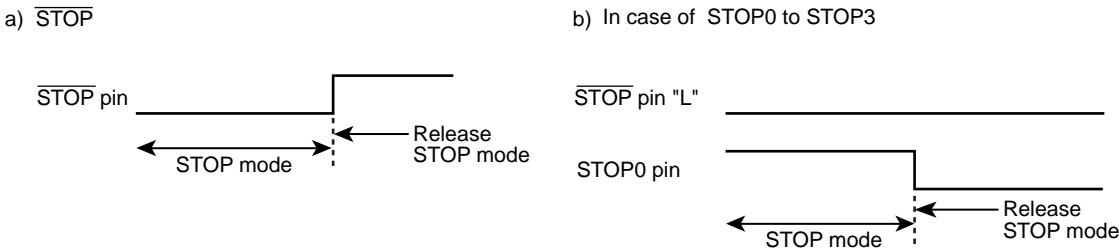

Figure 18-3 Priority of STOP pin and STOP0 to STOP3 pins
- Note 6: When the STOP mode is released by STOP0 to STOP3 pins, the level of  $\overline{\text{STOP}}$  pin should hold "L" level (Figure 18-3).